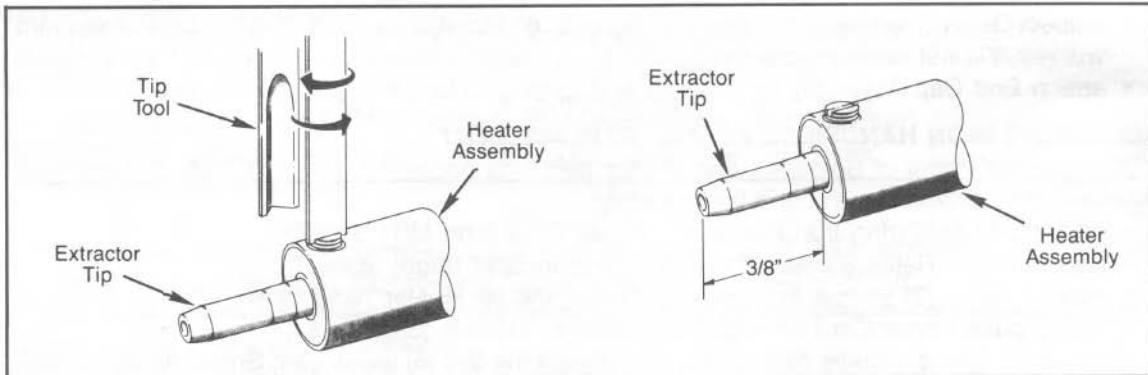

FIGURE 8. EXTRACTOR/SOLDERING IRON TIP REPLACEMENT
- using Tip Tool or needle nose pliers, disconnect the five (5) leads from Soldering Iron Power Cord (refer to Figure 8). Remove Heater Assembly from Handpiece.
- using Tip Tool or needle nose pliers, carefully plug the three (3) color coded leads (orange, blue and green) into matching color coded receptacles of the Soldering Iron Power Cord.
- using Tip Tool, loosen the Heater set screw ($\frac{1}{4}$ turn). (Refer to Figure 8).